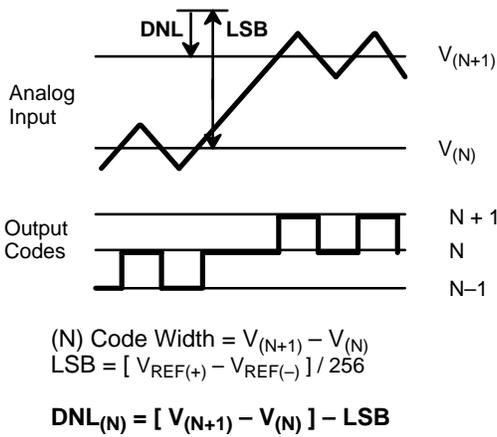

Figure 3. DNL Measurement
- 1 Tester measures code transitions by dithering the voltage of the analog input (VIN). The difference between the measured and the ideal code width (VREF/256) is the DNL error (Figure 3). The INL error is the maximum distance (in LSBs) from the best fit line to any transition voltage (Figure 4). Accuracy is a function of the sampling rate (FS).